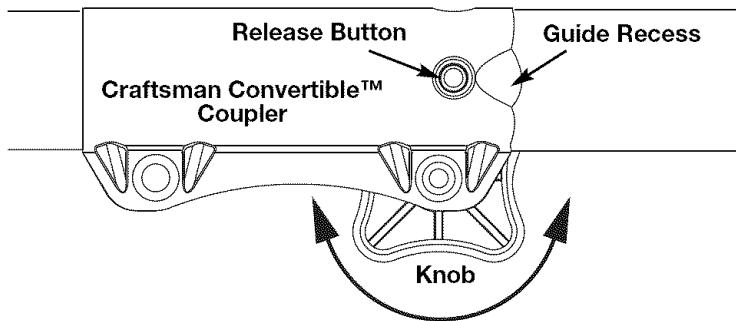

Fig. 1
- Turn the knob counterclockwise to loosen (Fig. 1).
- Press and hold the release button (Fig. 1).
- Turn knob counterclockwise to loosen (Fig. 1).
NOTE: Aligning the release button with the guide recess will help installation (Fig. 1).